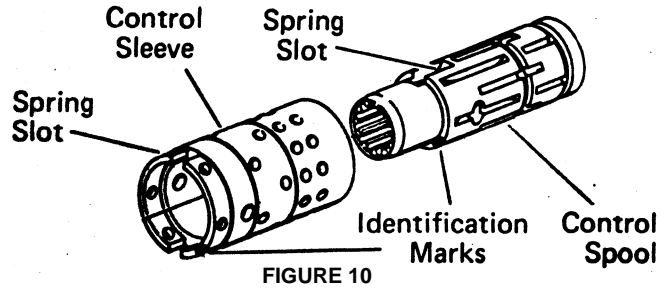

FIGURE 10
3. Assemble spool and sleeve carefully so that the spring slots line up at the same end. Rotate spool while sliding parts together. Some spool and sleeve sets have identification marks, align these marks as shown in Fig.10. Test for free rotation. Spool should rotate smoothly in sleeve with finger tip force applied at splined end.